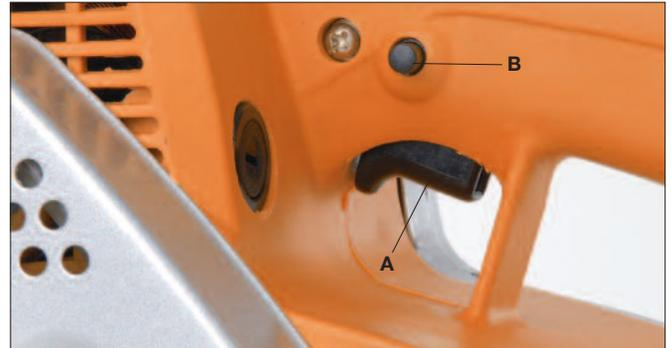

Figure 2
Warning! Always hold the belt sander firmly with both hands while sanding. To start the belt sander, press the On/Off Switch (A) Fig. 2. To stop the belt sander, release the On/Off Switch. For continuous operation press and hold the On/Off Switch (A) and then press the Lock-On Button (B). You can now release the On/Off Switch and the belt sander will continue to operate without holding the switch. To stop the belt sander, press and release the On/Off Switch.